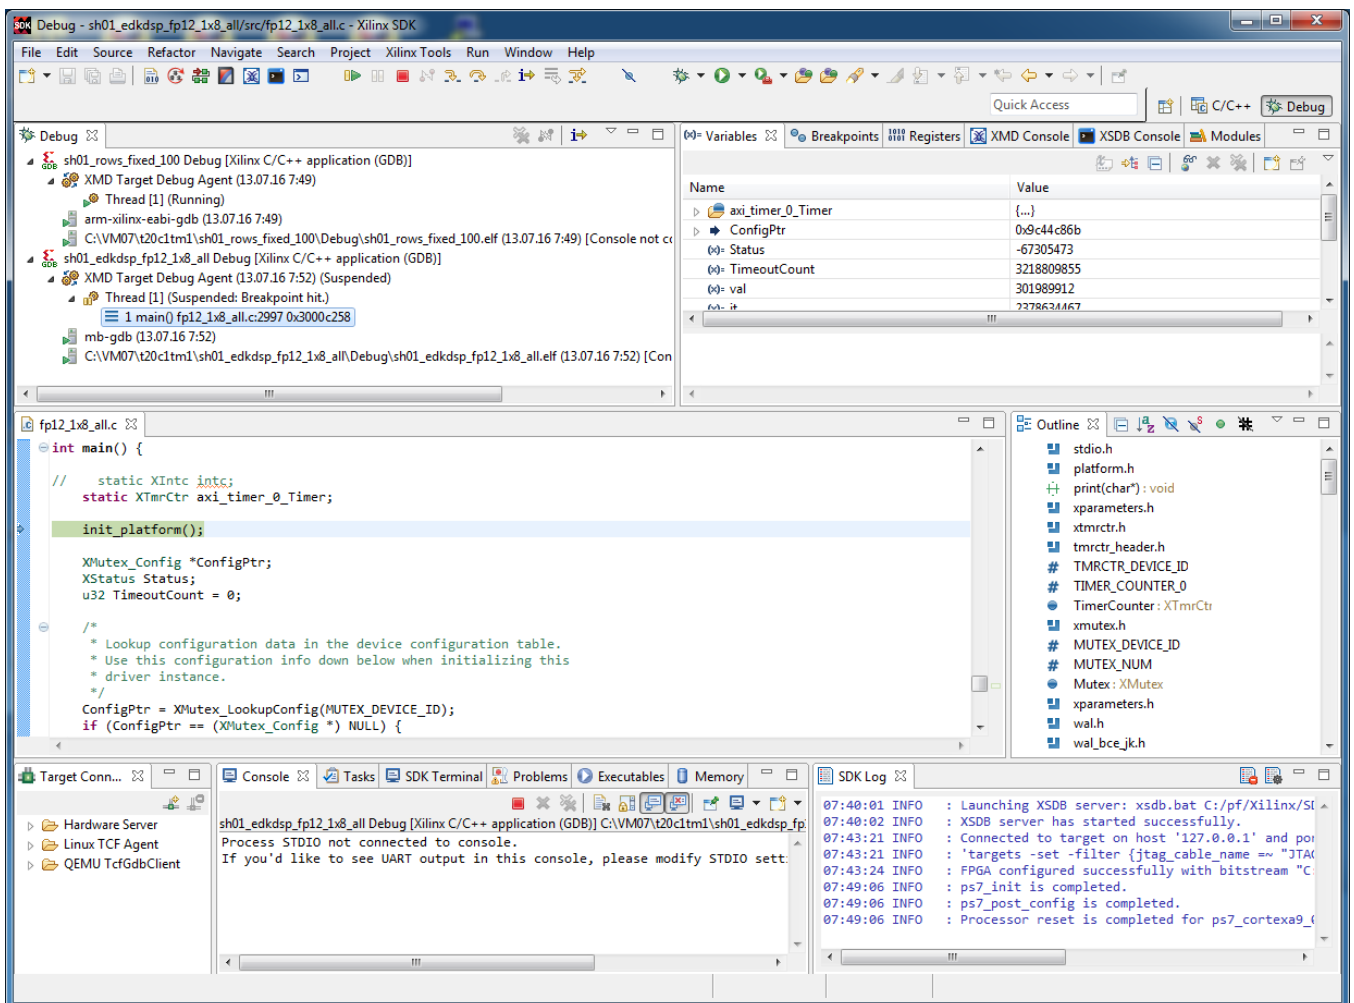

Figure 29: MicroBlaze application is loaded and debugger stops on the first instruction.
The debugger will download this code by JTAG (connected to PC by the USB cable shared with the serial terminal) and stop Microblaze at the first executable instruction. See Figure 29.
- Microblaze Thread [1] is currently suspended at breakpoint hit. See Figure 29.